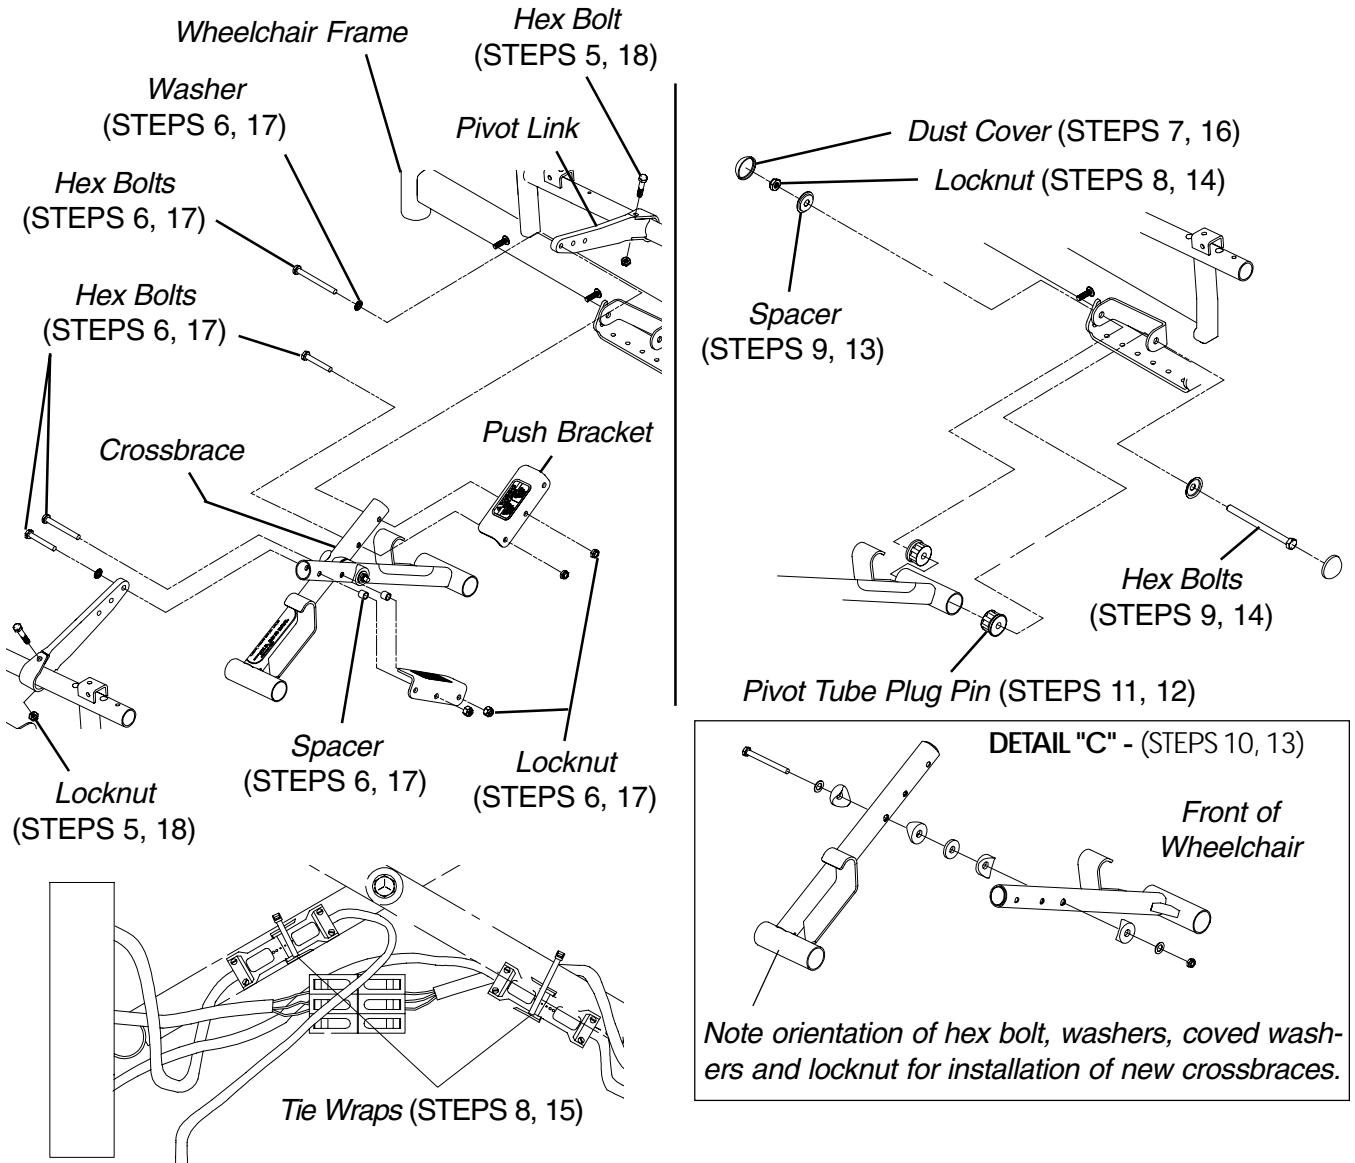

FIGURE 16 - REPLACING CROSSBRACES - CAPTAIN'S SEAT
REPLACING CROSSBRACES - CAPTAIN'S SEAT (FIGURE 16)
- Remove the four (4) pivot tube plug pins from the bottom of the two (2) existing crossbraces.
- Install the four (4) pivot tube plug pins into the bottom of the two (2) new crossbraces.
- Assemble the two (2) new crossbraces together. Refer to DETAIL "C" in FIGURE 16 for hardware orientation.
- Reinstall the hex bolts, washers and locknuts that secure the bottom of the two (2) new crossbraces to the wheelchair frame and tighten.
17. Reinstall the hex bolts, spacers, washers and locknuts that secure the (2) push brackets to the new crossbraces and tighten securely.